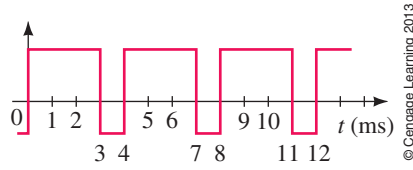

FIGURE 11–63
- Determine the rise time, fall time, and pulse width for the pulse in Figure 11–64.